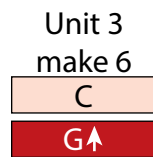

Fig. 5
3. Sew (1) $2'' \times 6\frac{1}{2}''$ Fabric C strip to the top of (1) $2'' \times 6\frac{1}{2}''$ Fabric G strip lengthwise to make (1) Unit 3 strip (Fig. 5). Repeat to make (6) Unit 3 strips total.